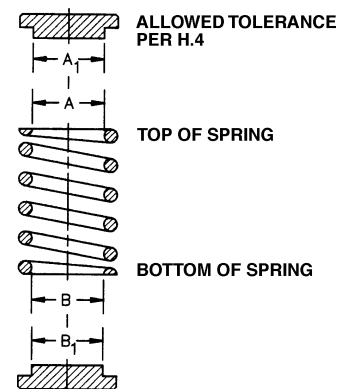

FIGURE 21
4. Spring Washers are custom made for each end of a particular spring. The maximum clearance between the A and A1 dimension, and B and B1 dimension (see figure 21), should be 1/32 inch (.79mm) for springs with an inside diameter of less than four inches (100mm). The clearance for valves with a spring inside dimension that is four inches (101. plus) or larger should be 3/64 inch (1.19mm). If you find you must replace a spring, order a Spring Assembly as it will include custom fit Spring Washers not just a spring.